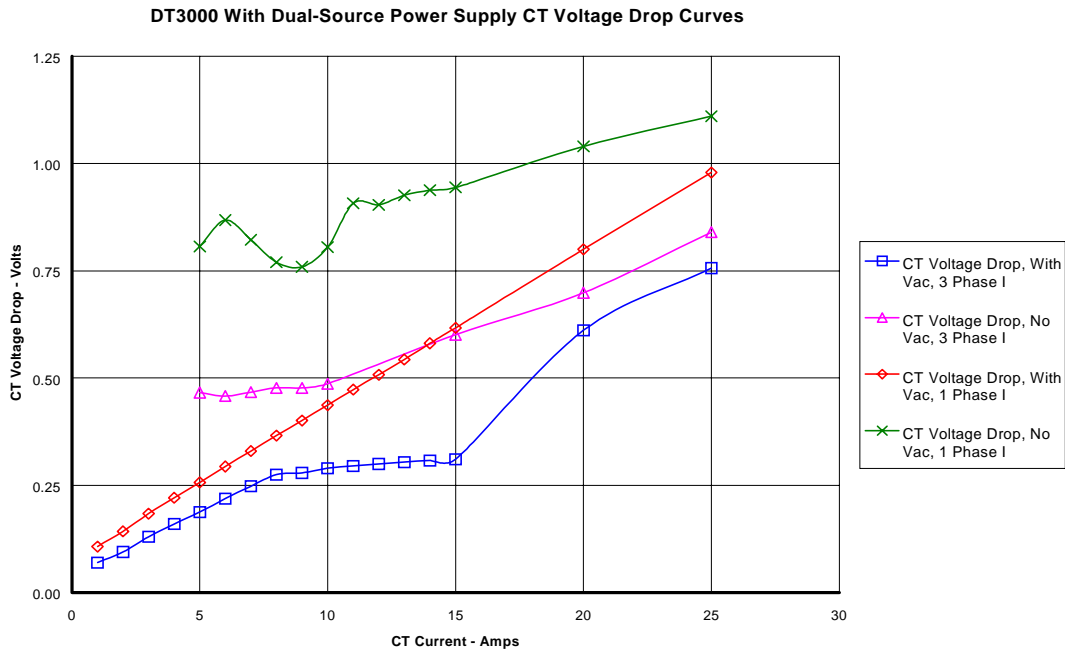

FIGURE 10. Digitrip 3010/3020 protective relay ct voltage drop curves
- 7.1.5 Connect an isolated ac multimeter across any one phase ct input and observe the voltage drop, which will be less – maybe much less – than 0.25 volt. See Figure 10.
- 7.1.7 The ac voltage drop across the ct input should rise to a larger value, at least twice as large as when ac was applied, and maybe approaching 0.5 volt as shown in Figure 10.
- 7.2.6 Repeat step 3 for Phase C. This time, use an isolated ac multimeter to measure the voltage drop across the Digitrip 3000 current input during the test. Check the value against the “No Vac, 1 Phase I” curve, the highest curve, of Figure 10.
- 7.2.7 Apply ac control voltage again, with Phase C current still applied, or reapply it. The voltage drop shown on the multimeter should decrease to the value for the “With Vac, 1 Phase I” curve of Figure 10. With ac power applied, this voltage will be roughly half of the value without the ac power applied.